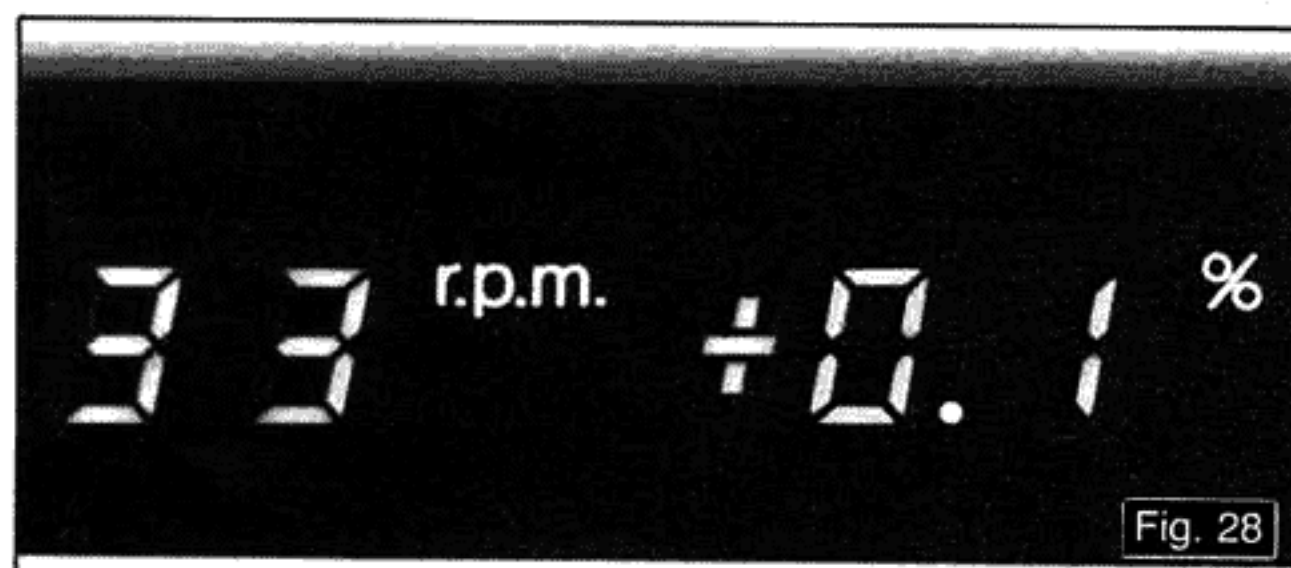

Fig. 28
- The pitch control can be selected in increments of 0.1% which is below the threshold of human perception. This function can be very effective for minor extension or reduction of broadcasting time in professional applications. (See Fig. 28).